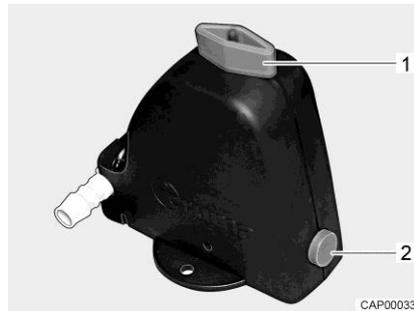
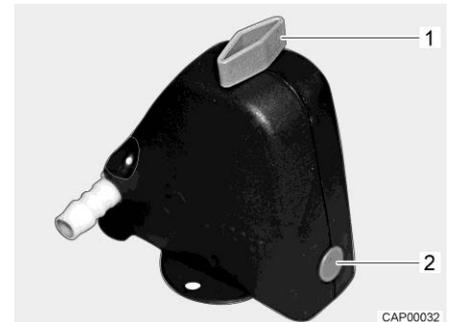

Fig. 138 Safety/drainage valve open
Fig. 139 Safety/drainage valve closed
- Close the safety/drainage valve. Turn the knob (Fig. 138,1) perpendicular to the safety/drainage valve and push the push button (Fig. 138,2) in. The closed safety/drainage valve is shown in Fig. 139.